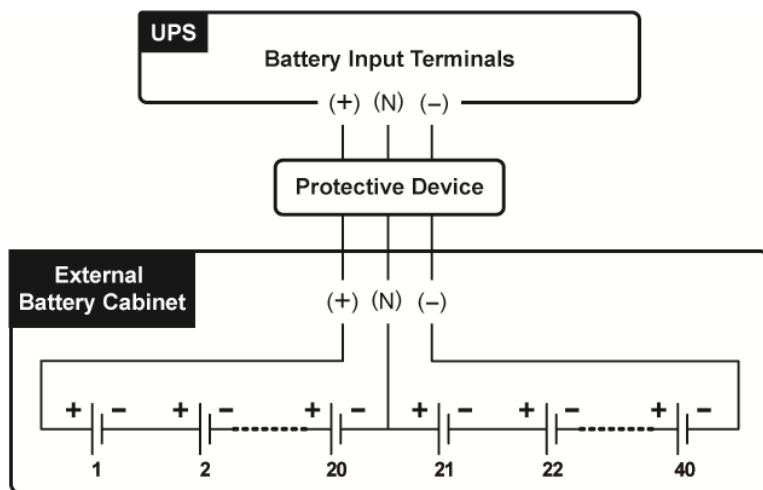

Figure 5-17: External Battery Cabinet Connection
- To connect the external battery cabinet(s) to the UPS, please refer to **5.5 Wiring** and **Figure 5-17**.